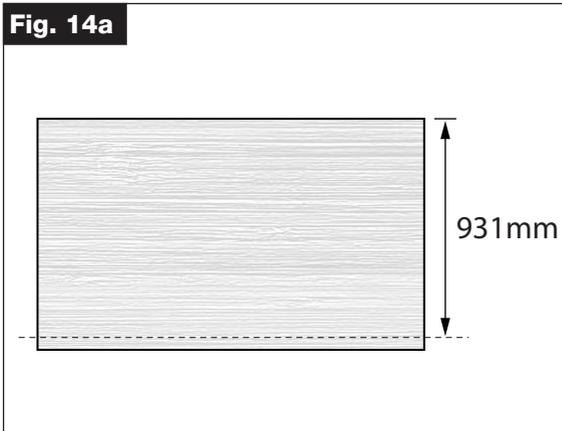

Fig. 14b
- Mark a pencil line 931mm as shown (Fig. 14b). On darker colour tops use masking tape to highlight pencil markings.